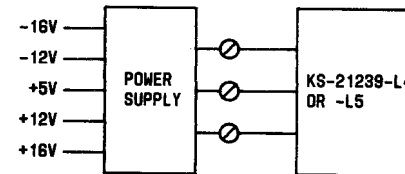

Fig. 5—DS 108H and J Simplified Diagram
3.01 This part contains information pertaining to DS 108H or J modulation, transmission, reception, digital loopback test mode, and options. Because of functional similarity, all references to DS 108H and J will be to "data set" only. The full designation will be used to indicate dissimilar functions. Figure 5 is a simplified diagram of the data sets.